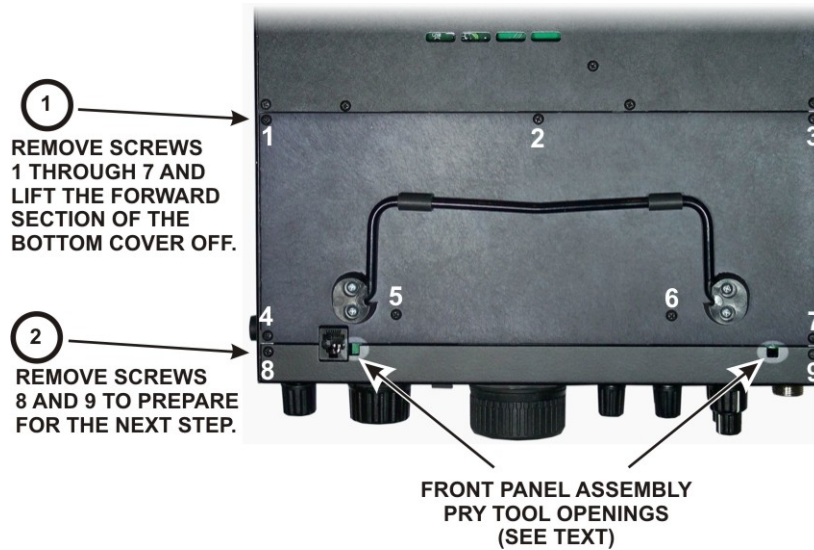

Figure 5. Removing Bottom Cover and Front Panel Assembly Screws.
- Refer to Figure 5 and remove screws 1 through 7, then lift the forward section of the bottom cover off. Put it in a safe place to avoid scratches.
- Refer to Figure 5 and remove screws 8 and 9 that secure the bottom of the front panel assembly.
- Replace the forward bottom cover using seven 3/16" (4.8 mm) black pan head screws (see Figure 5 on page 3).